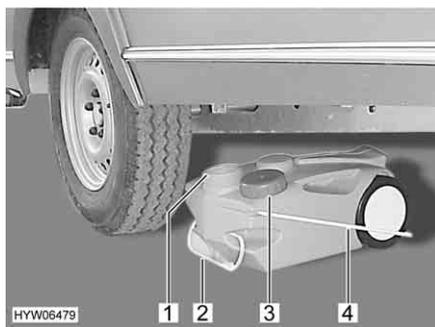

Fig. 168 Waste water tank, mobile
- Use the cap (Fig. 168,3) to close the opening of the waste water tank (Fig. 168,1).
- Use the handle (Fig. 168,2) to pull out the waste water tank.
- Fold the carrying handle (Fig. 168,4) up and upright the waste water tank.